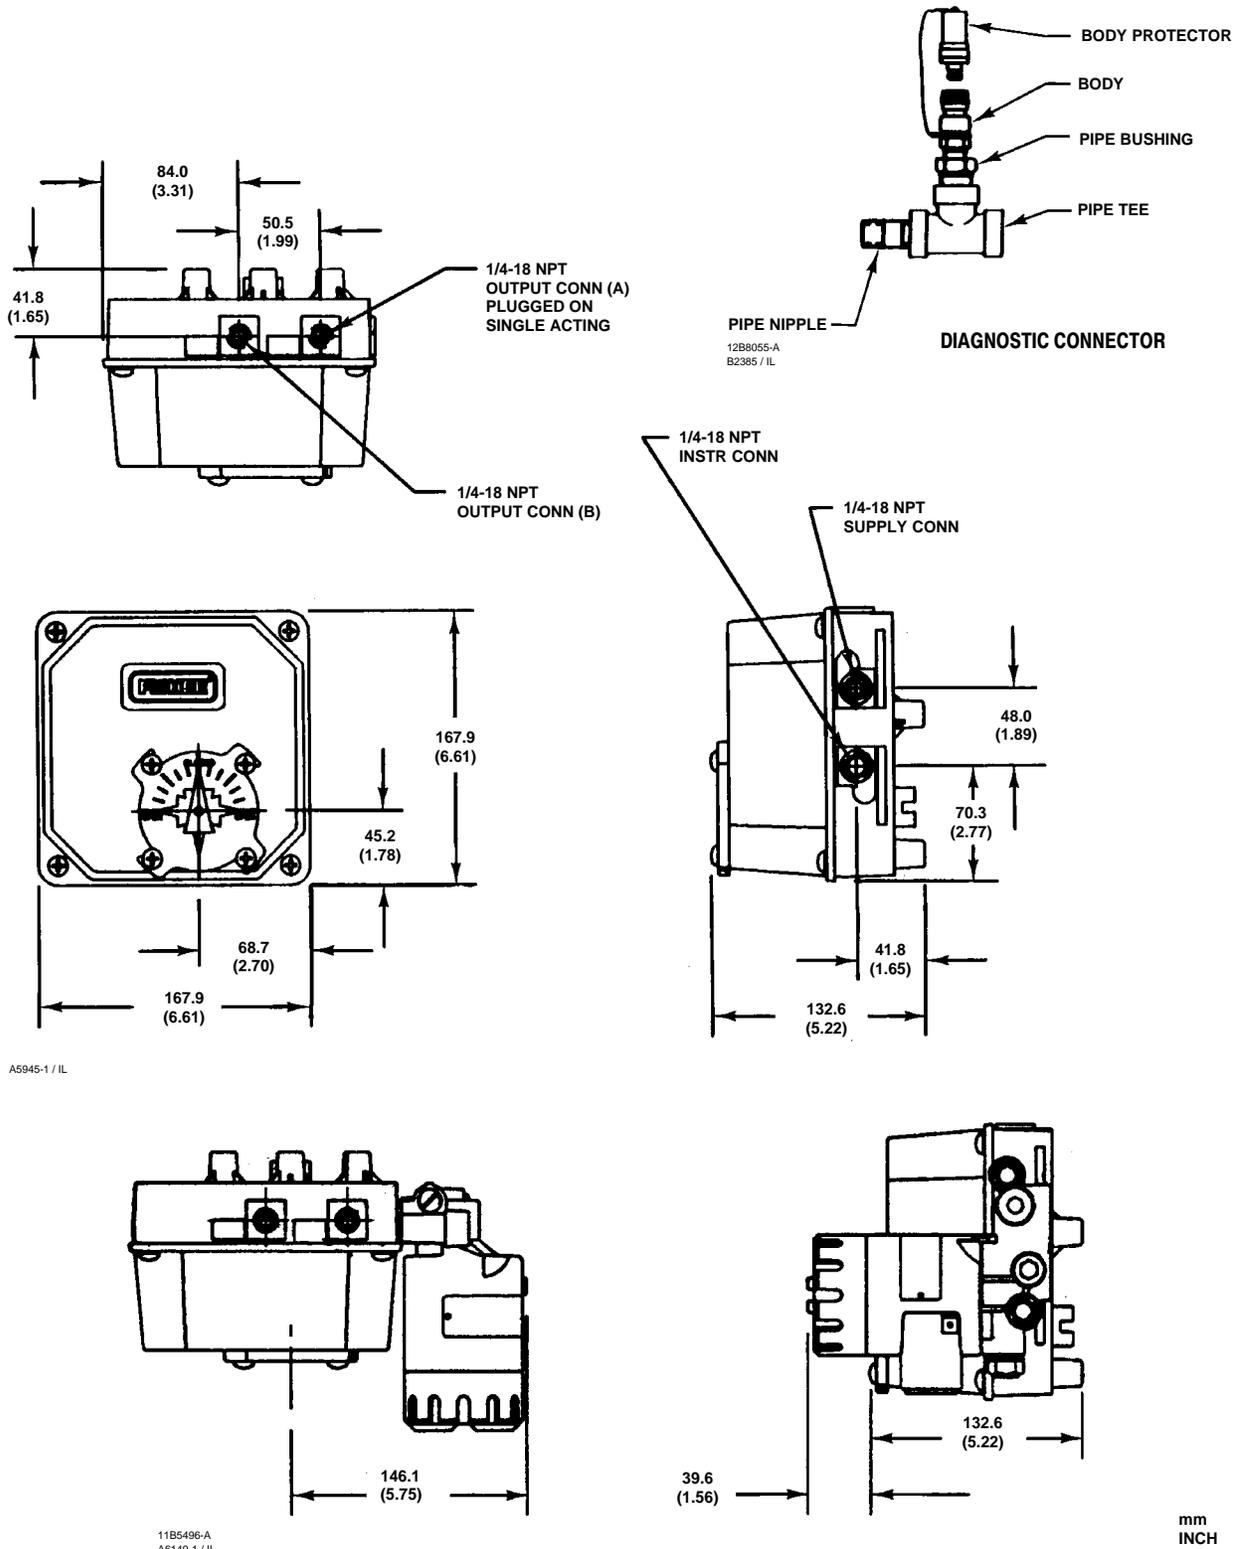

Figure 8. Dimensions and Connections
- **Control Valve Diagnostic Testing Capability**—To support diagnostic testing of valve/actuator/positioner packages, connectors, piping, and other hardware can be installed between the 3710 positioner and the actuator. A typical connector installation is shown in figure 8.
Positioner connections including connections for diagnostic testing and overall dimensions are shown in figure 8.